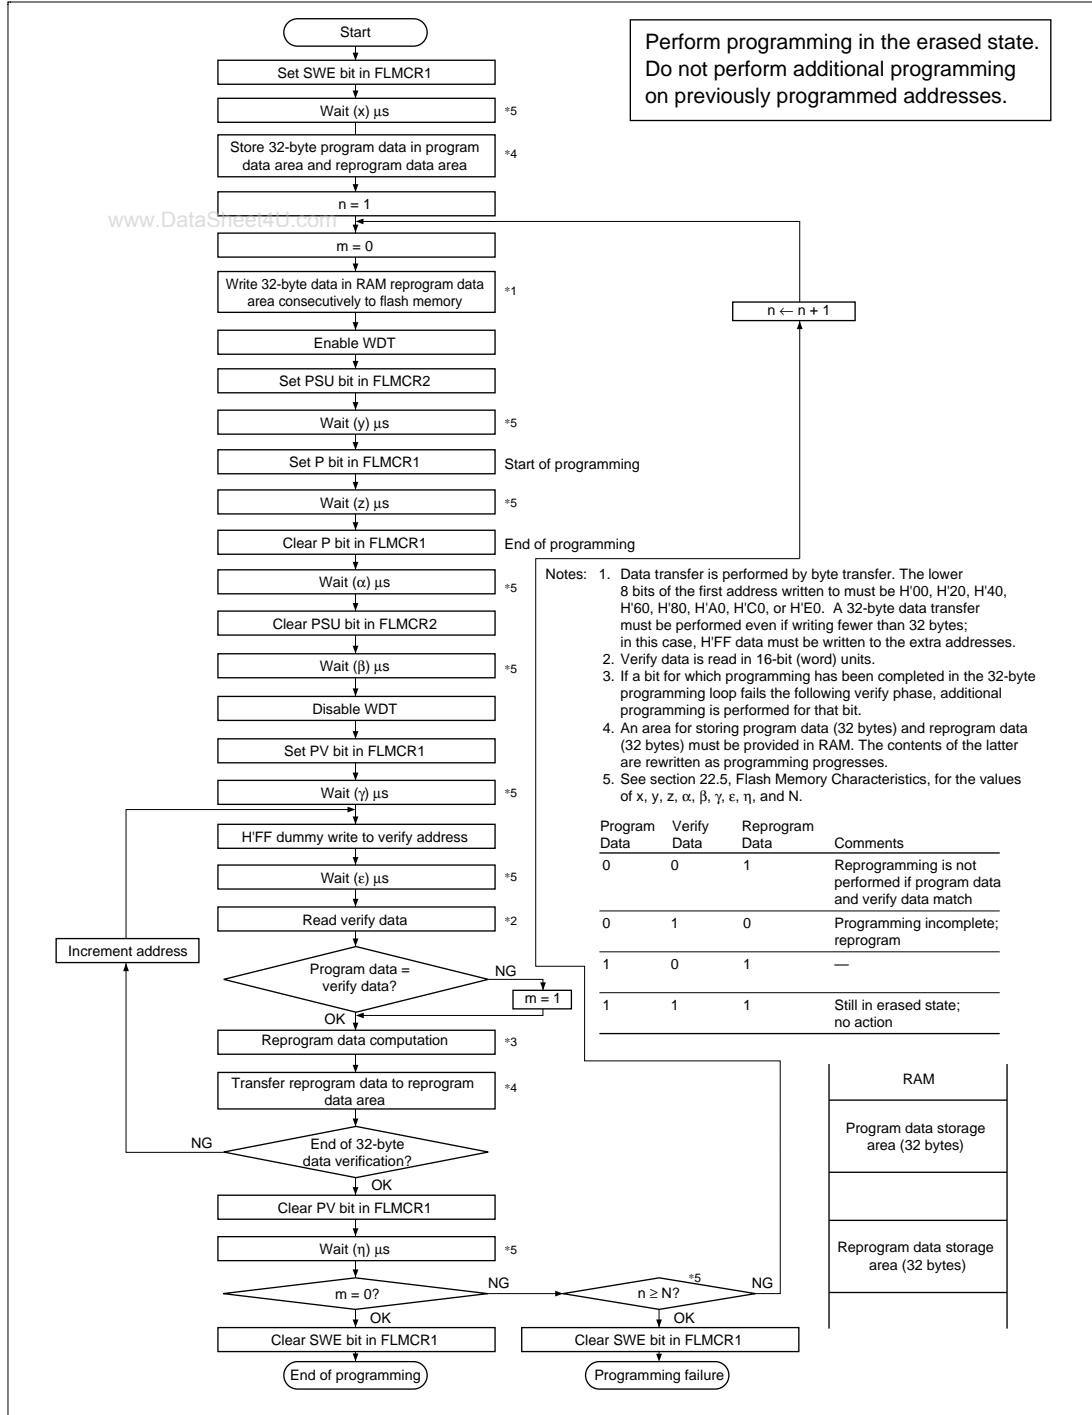

Figure 19.12 Program/Program-Verify Flowchart
Follow the procedure shown in the program/program-verify flowchart in figure 19.12 to write data or programs to flash memory. Performing program operations according to this flowchart will enable data or programs to be written to flash memory without subjecting the device to voltage stress or sacrificing program data reliability. Programming should be carried out 32 bytes at a time.
After the elapse of a given programming time, the programming mode is exited (the P bit in FLMCR1 is cleared, then the PSU bit in FLMCR2 is cleared at least (α) μ s later). The watchdog timer is cleared after the elapse of (β) μ s or more, and the operating mode is switched to program-verify mode by setting the PV bit in FLMCR1. Before reading in program-verify mode, a dummy write of H'FF data should be made to the addresses to be read. The dummy write should be executed after the elapse of (γ) μ s or more. When the flash memory is read in this state (verify data is read in 16-bit units), the data at the latched address is read. Wait at least (ϵ) μ s after the dummy write before performing this read operation. Next, the originally written data is compared with the verify data, and reprogram data is computed (see figure 19.12) and transferred to the reprogram data area. After 32 bytes of data have been verified, exit program-verify mode, wait for at least (η) μ s, then clear the SWE bit in FLMCR1. If reprogramming is necessary, set program mode again, and repeat the program/program-verify sequence as before. However, ensure that the program/program-verify sequence is not repeated more than (N) times on the same bits.